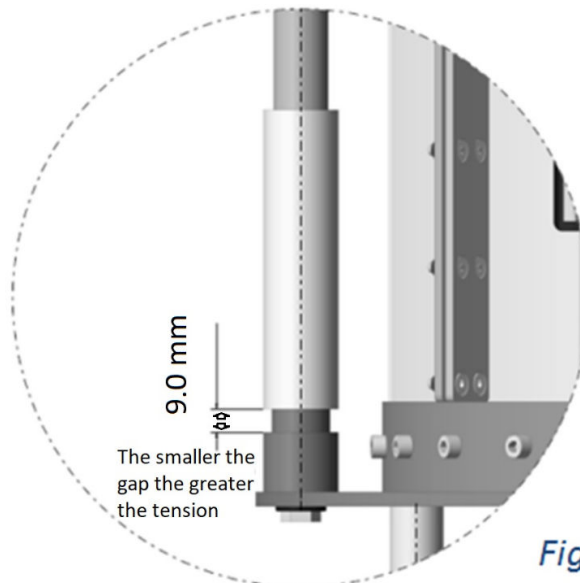

Figure 5
**Do not over tighten the mesh – Manufacturer's setting - Gap Measurement 9.0 mm (See Fig5)**
- 4) Reverse the process & re-apply tension to the mesh measuring the gap at the base of the tensioning pillars to 9.0 mm as shown in fig 5.